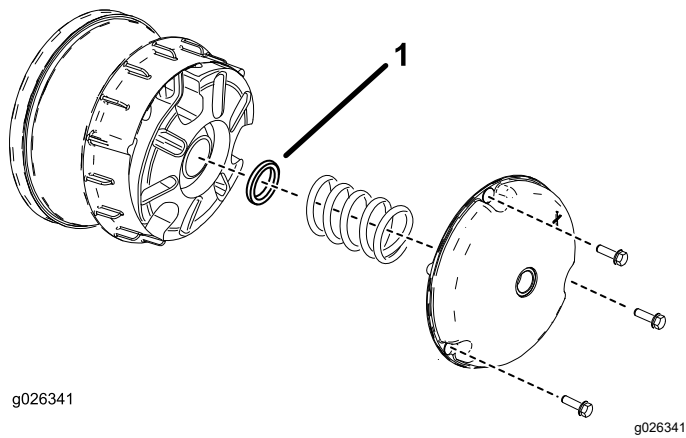

Figure 62
2. Remove the bolts securing the primary clutch cover as shown in Figure 62.